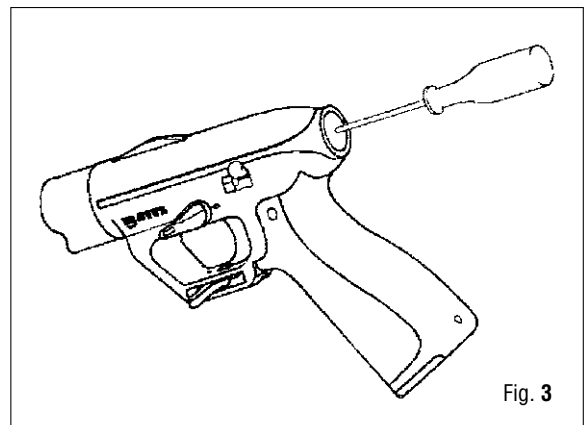
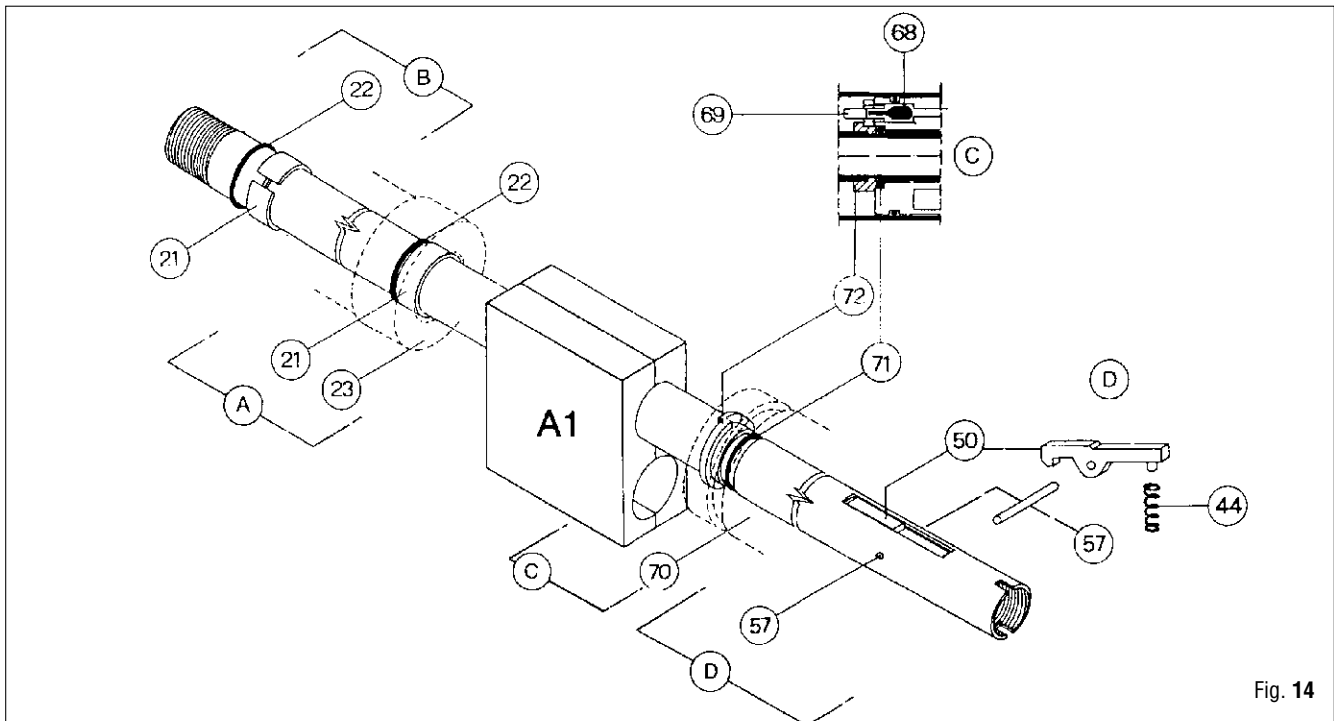

Fig. 3
Fig. 14
4. With a metal rod (approximately 1.5 mm. diameter), depress the inlet valve ball, until all the air is fully released from the speargun (Fig. 3).
1. Place the barrel in the 16 mm. jaws (A-1) (Fig. 3) and clamp into vise (Fig. 14).
2. Install one barrel bushing (21) in the inner groove of the barrel with tool A-7 (Fig. 14-A). (only Cyrano version)
3. Place one o-ring (22) against the barrel bushing (21) with tool A-7 (Fig. 14-A). (only Cyrano version)
4. Place o-ring (29) on the nose cone reinforcement (23). (only Cyrano version)
5. Slide the nose cone reinforcement (23) into position over o-ring (22) (Fig. 14-A). (only Cyrano version)
6. Install the remaining barrel bushing (21) in the outer groove of the barrel with tool A-7 (Fig. 14-B).
7. Place the remaining o-ring (22) against the barrel bushing (21) with tool A-7 (Fig. 14-B).
8. Install the snap ring (72) into the groove of the barrel, with the square tab facing the front (muzzle end) of the barrel with tool A-7 (Fig. 14-C).
9. Place o-ring (71) in the groove of the barrel next to the snap ring (72) with tool A-7 (Fig. 14-C).
13. Slide the power regulating block into position over o-ring (71). Rotate the snap ring and/or power regulating block as needed to align the one-way housing (69) with the snap ring seat. (Fig 14-C).
14. Install spring (44) on to catch hook (50) (Fig. 14-D).
15. Install catch hook (50) with spring (44) attached, into the barrel and align the hole in the catch hook with the holes in the barrel and install the catch hook pin (57) (Fig. 14-D).
17. Place o-ring (20) into the groove of the handle (41).
18. Slide spring (24) onto power adjustment rod.